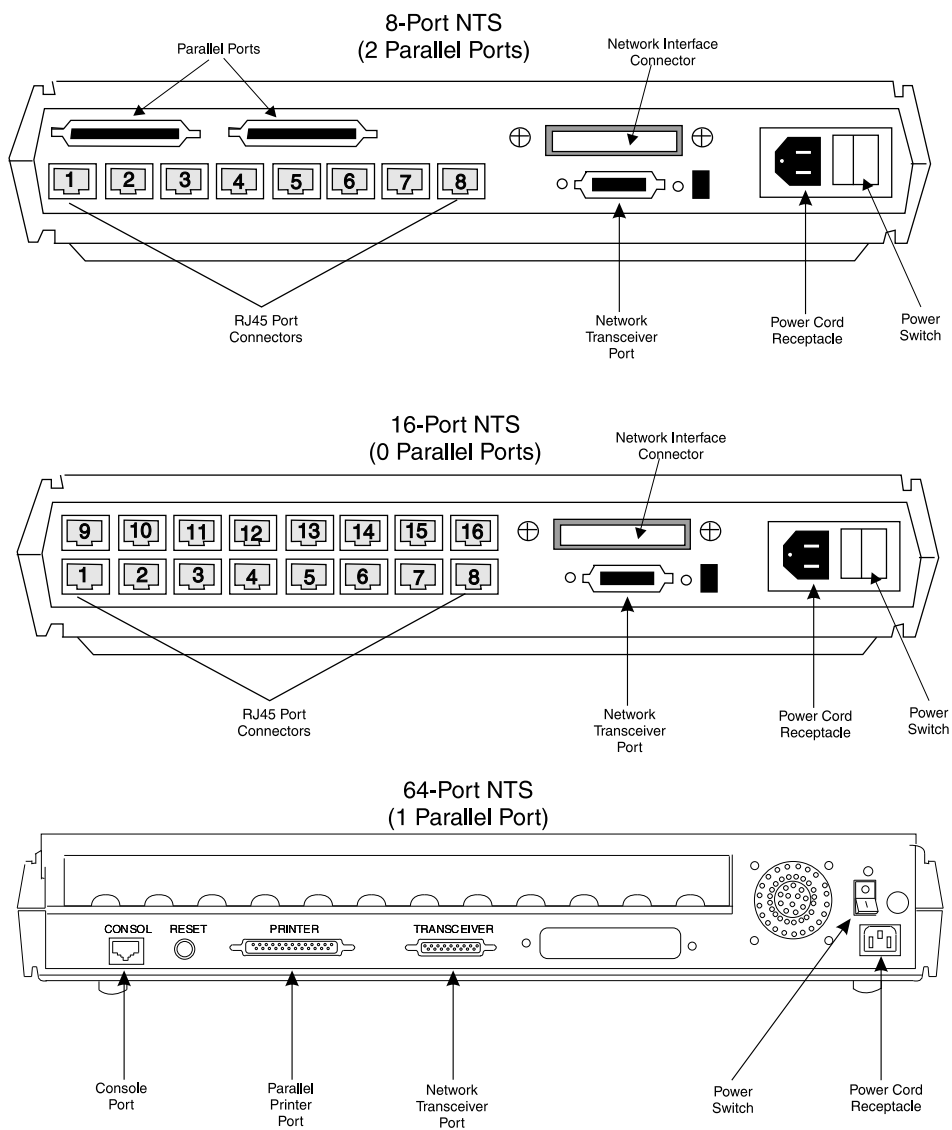

Figure D-55: Network Terminal Server — Back Panel
5. Connect the power cord to the NTS (see Figure D-55).
6. Connect the 10-T Transceiver to the Network Transceiver Port on the back panel of the NTS (see Figure D-55).